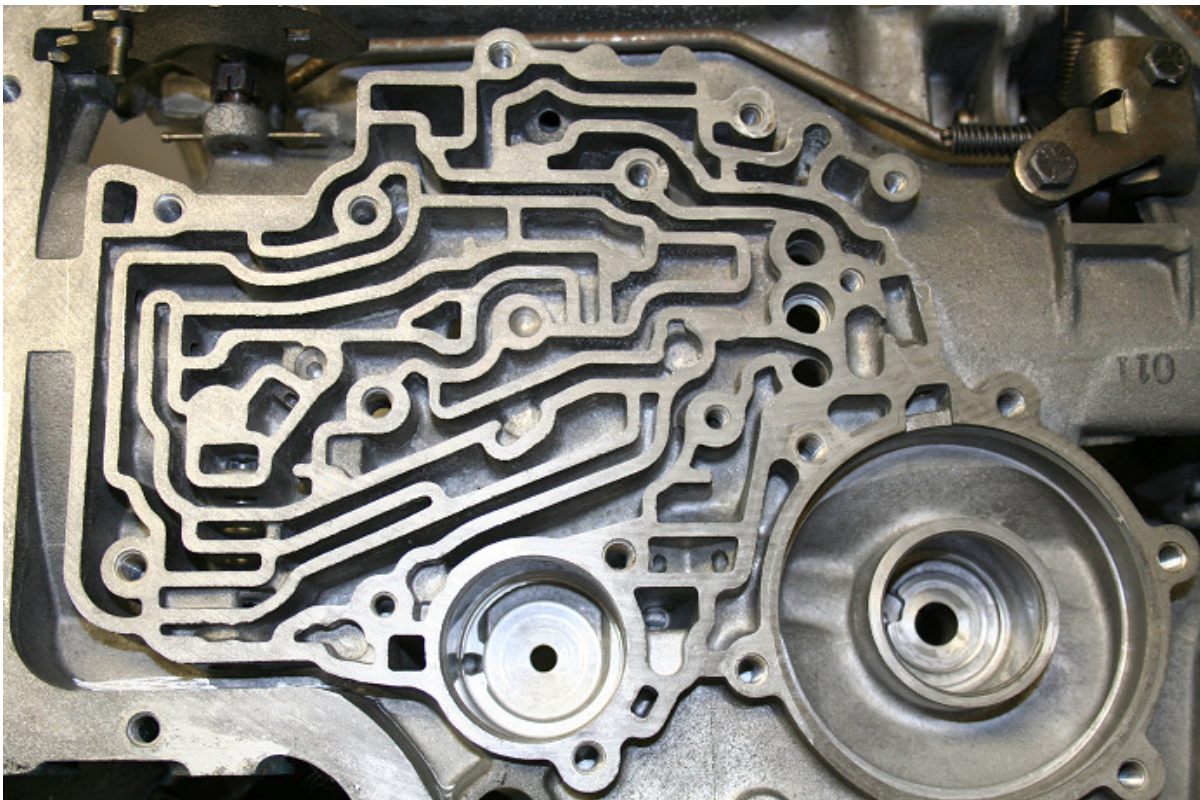

Figure 4
13. Flat file or wet stone entire channel passage area of case; absolutely no high spots or burrs allowed especially at area shown in figure 4.